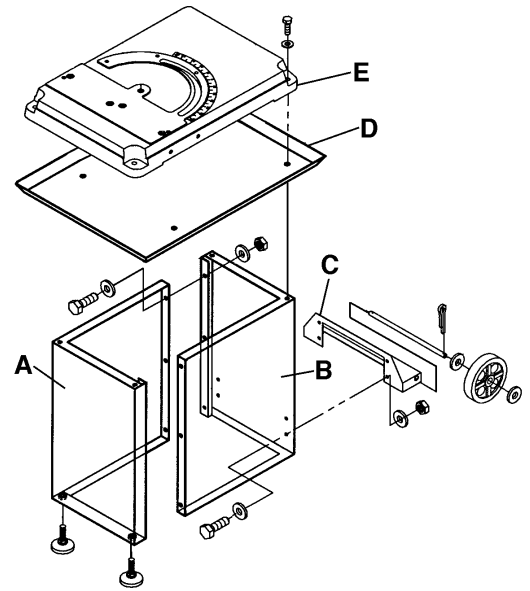

FIGURE 3
## Assembling Cabinet Stand, Wheels and Wheel Bracket (Fig.3)
- 1) Assemble the cabinet stand panels (A & B) Fig.3 together using 6 hex. bolts, 12 washers and 6 hex. nuts as shown.
- 2) The next step is to assemble the wheels and wheel shaft to the wheel base (C). Insert the wheel shaft through the wheel base, place a large washer, a wheel, another large washer at each end of the wheel shaft secure both wheels in place with cotter pins as shown.
- 3) Assemble the wheel base assembly to the cabinet panel (B) using 4 hex. bolts, 8 washers and 4 hex. nuts as shown.
- 4) Turn the cabinet stand assembly upside down and screw 2 rubber feet into the cabinet stand panel (A) as shown.
- 5) Place cabinet stand back to upright position and place the chip tray (D) on top of the cabinet stand as shown in Fig.3 and line up the mounting holes.
- 6) It is now necessary to lift the machine assembly (E- shows base only for illustration purposes) and to place it onto the chip tray. Do not try to lift the machine by yourself, risk of back injury! It is recommended to get another person to help you or to use a chain hoist if available. Line up the mounting holes of the machine base (E), chip tray (D) and cabinet stand and secure them together using 4 hex. bolts and large washers as shown.